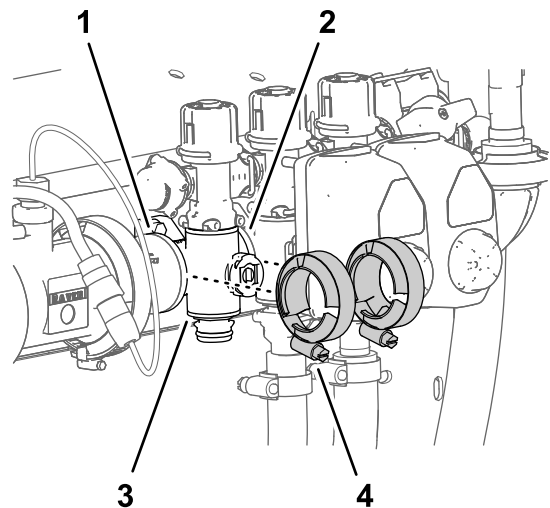

Figure 119
4. Loosely assemble the flange clamps that you removed in Installing the Section-Manifold Valve \(page 82\) to the flanges of the section-valve manifold and the flanges of the other section-valve (s) and/or coupling adapter (Figure 119).
7. Tighten the 2 flange clamps by hand (Figure 119).